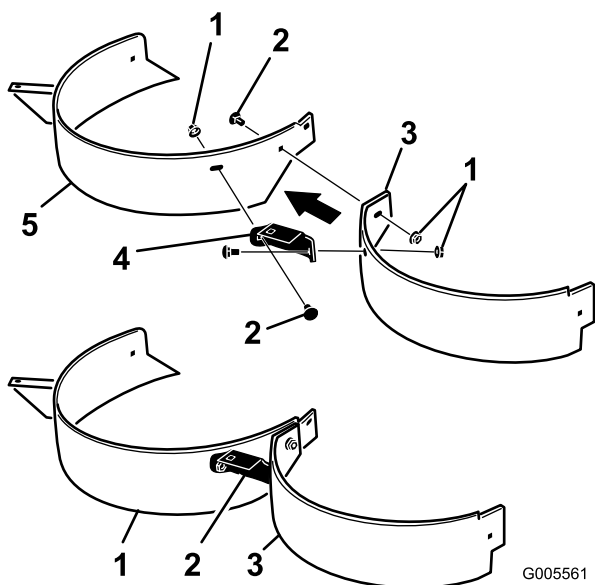

Figure 4
1. Loosely install the angle support to the left and right baffles with 2 carriage bolts (3/8 x 3/4 inch) and 2 flange nuts (3/8 inch) (Figure 4).
2. Loosely install the left and right baffle together with a carriage bolt (3/8 x 3/4 inch) and a flange nut (3/8 inch) (Figure 4).